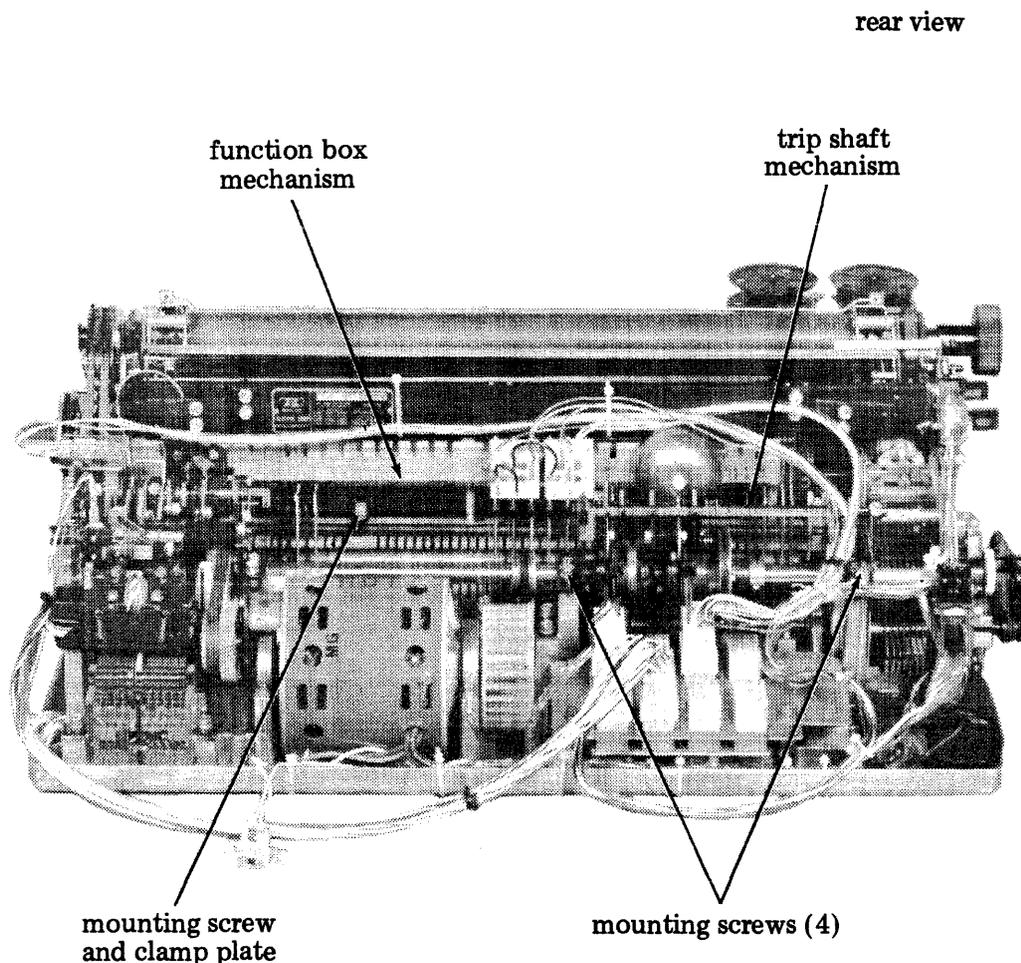

Figure 3 - Function Box and Trip Shaft Mechanisms
2.09 Disassemble function box mechanism (Figure 3) as follows:
2.11 Disassemble trip shaft mechanism (Figure 3) as follows: